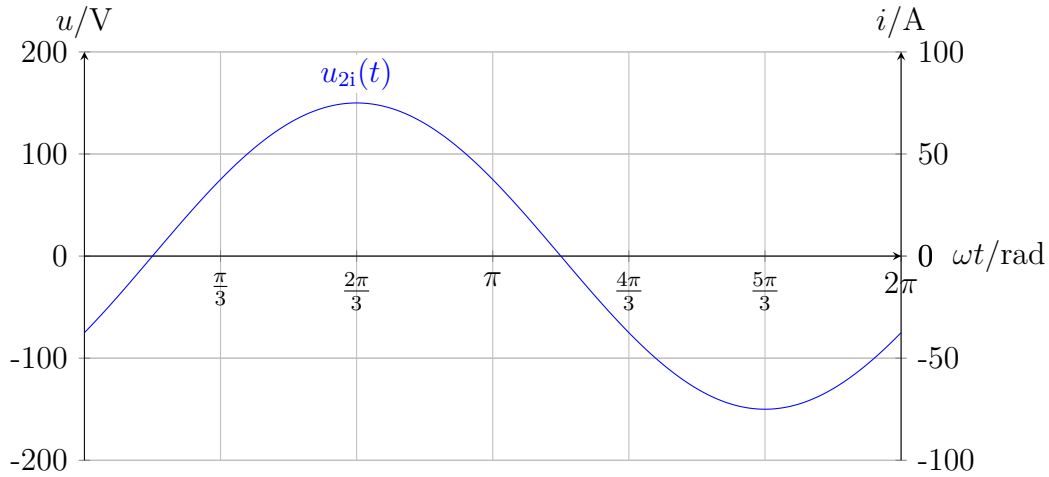

Figure 7.1.5: Output current  $i_2(t)$ , its fundamental component  $i_2^{(1)}(t)$ , its harmonics  $i_2^{(h)}(t)$ , and input current  $i_1(t)$ .
7.1.4 Draw the converter's output current  $i_2(t)$ , its fundamental component  $i_2^{(1)}(t)$  and its harmonics  $i_2^{(h)}(t)$  in Fig. 7.1.5.
7.1.5 Mark the input current  $i_1(t)$  of the AC-DC converter in Fig. 7.1.5.